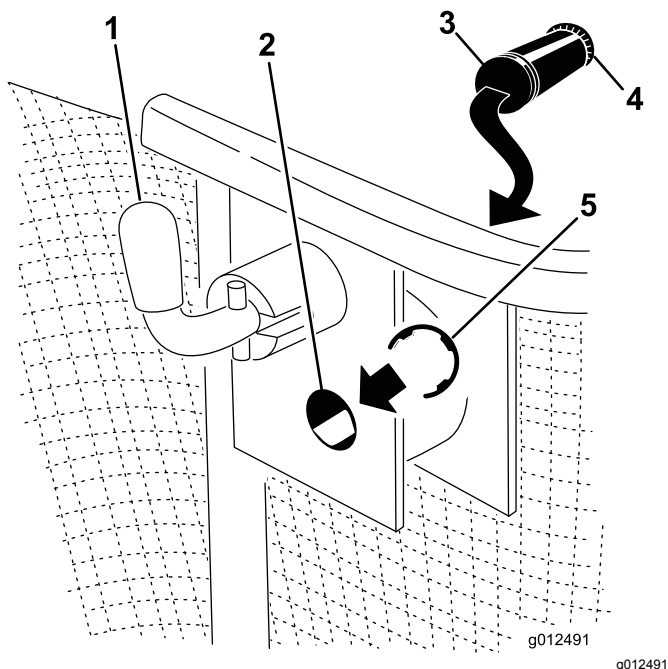

Figure 2
1. Install a push nut onto the end of each hinge pin and slide it to within an 1/8 inch (3 mm) from the end of each pin (Figure 2).
- Slide the collector into the dump frame so that the holes in the dump frame line up with the holes in the sides of the collector (Figure 2).
- Push a hinge pin through the holes on each side from inside the collector, and secure each on the outside using a snap ring installed into the grove on the pin (Figure 2).
- Turn the locking pin down to lock the dump frame in place (Figure 2). Refer to the *Operator's Manual* for more information.